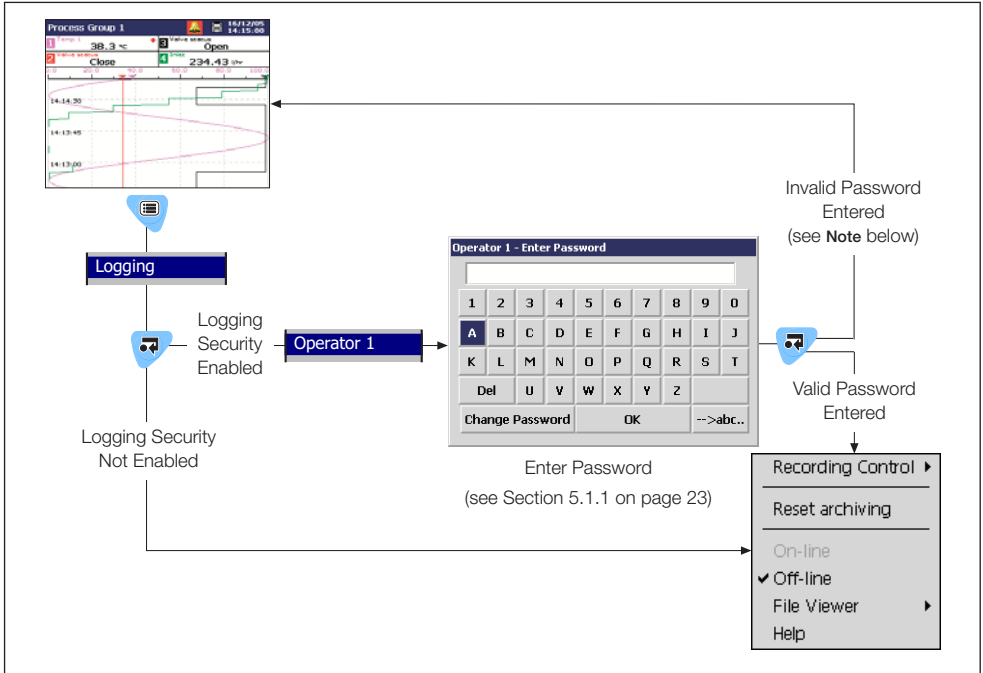

Fig. 5.2 Accessing Logging – Advanced Security
- If 'Security System' is set to 'Advanced' and 'Logging Security' is set to 'On', access to the Logging facility is protected by a unique password for each authorized user. Refer to Fig. 5.2 on page 22 to access Logging.